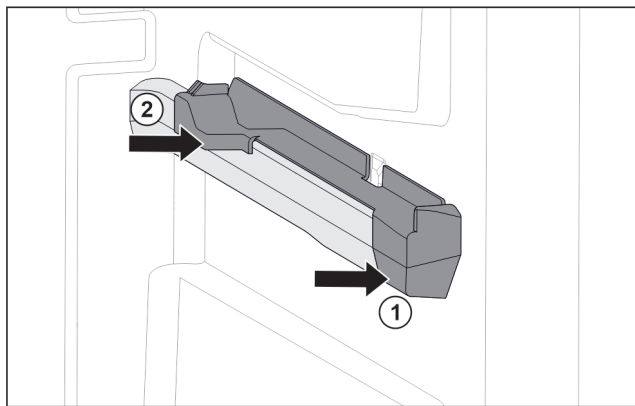

Fig. 123 Attachment on the right moulded rib
- ▶ Position attachment on moulded rib at the front. *Fig. 123 (1)*
- ▶ Press on attachment at the back. *Fig. 123 (2)*